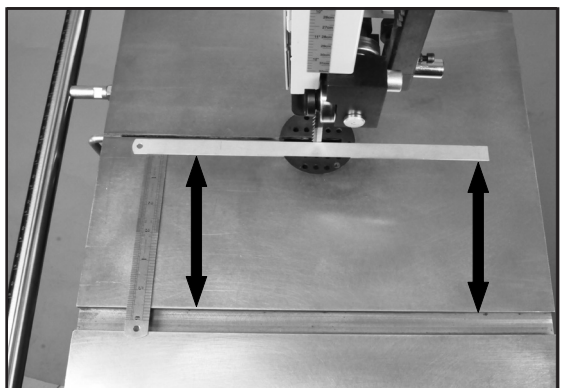

Figure 4
**NOTE:** Before finally secured in position, the table can be slightly moved, left and right. Check to make sure that the table's miter gauge slot is parallel to the side of the saw blade. This will provide a true cut when ripping stock. Set a thin metal ruler against the side of the saw blade. Make sure that it is not touching the saw's teeth, which can angle the ruler. Measure the distance from one end of the ruler to the miter gauge slot. FIG. 4. Then measure the same distance from the other end of the ruler to the miter gauge slot. Compare these two measurements and angle the table as necessary until the distances are the same.